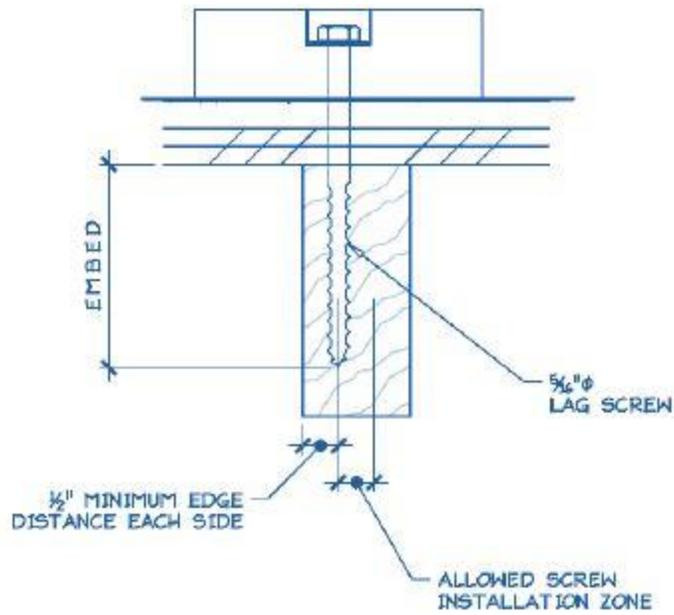

Figure 4 Typical Anchor with Lag Screw Attachment
- 5) Measured rafter horizontal span (see figure 4): _____ ' - _____ "ft.-in
1. See Figure 4 for definition of roof rafter maximum horizontal span.